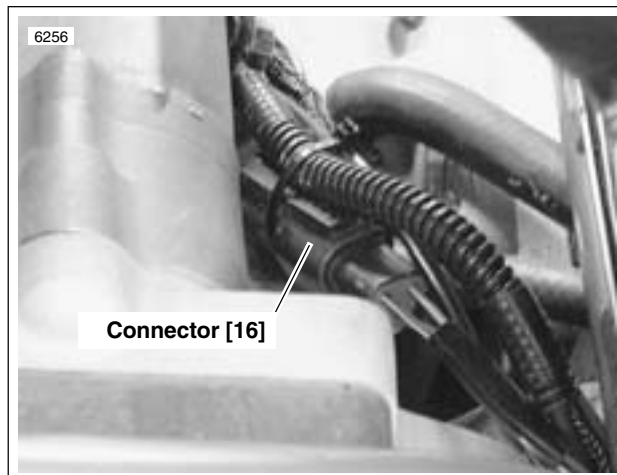

Figure 7-13. Cam Position Sensor Connector [16]
4. See Figure 7-13. Disconnect cam position sensor wiring at connector [14] located behind the starter motor.